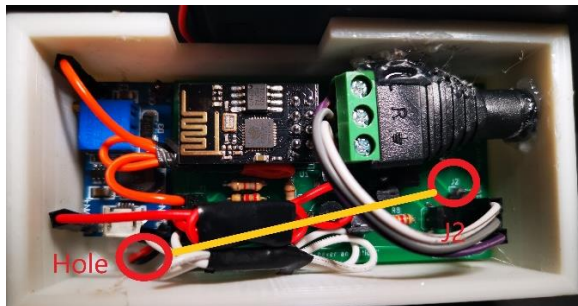

Figure 1: J2 should be in parallel with the hole.
4. Place the PCB board in the Housing Case. Orientate the board by referencing Figure 1 & 2: